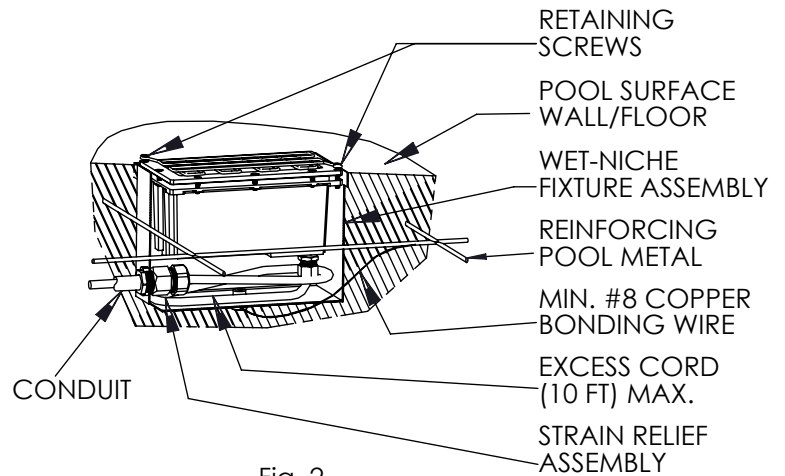

Fig. 2
2. Attach conduit to threaded hub provided at back of niche. Run separate ground wire (#8 AWG) from pressure type grounding lug furnished on the niche to reinforcing on structural metal of pool. (See fig. 2)
5. Coil excess cord around fixture housing and install fixture in niche. Make sure that fixture mounting lug of the lens ring interlocks with the lug of the niche mounting ring (See fig. 2). Insert tamper-proof stainless steel retaining screw in hole provided at top of lens ring. Tighten to 23 in./lbs. Screws 9-10.